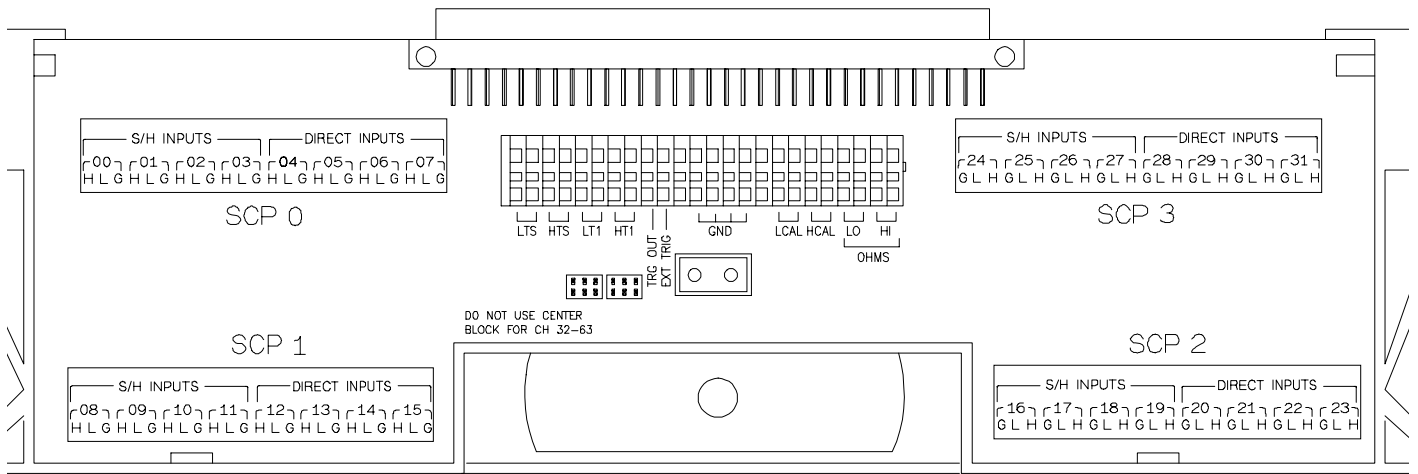

Figure 3 HP E1510 B-size Terminal Module Connections (Ch 00-31)
- For HP E1313 Terminal Modules, use stickers for HP E1510 SCPs. The connections are shown in Figures 3 and 4.